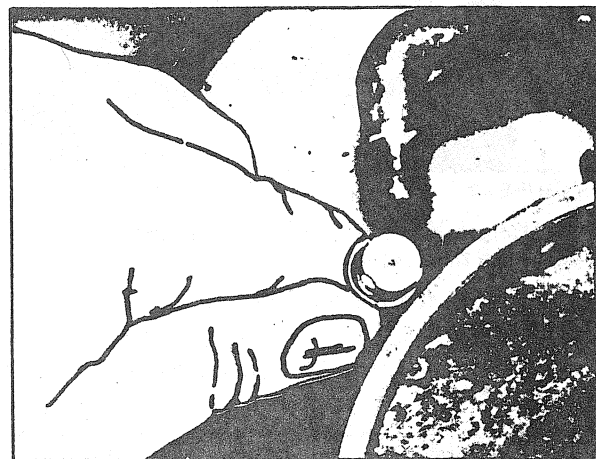

FIGURE 5
- Disconnect the steering cable from the tiller by sliding back the ball joint sleeve in a forward and downward movement (fig. 5).